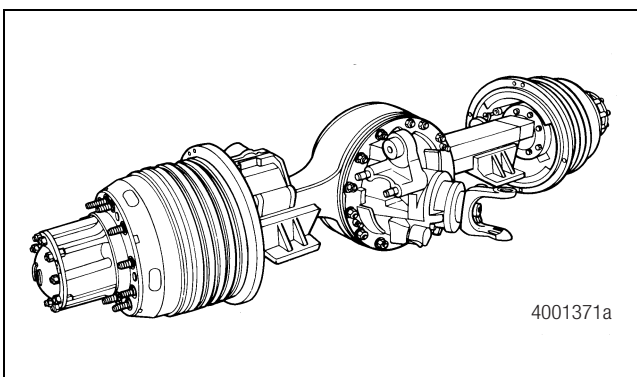

Figure 2.1
- The housing is designed with replaceable axle tubes at the wheel spindles. Figure 2.1.